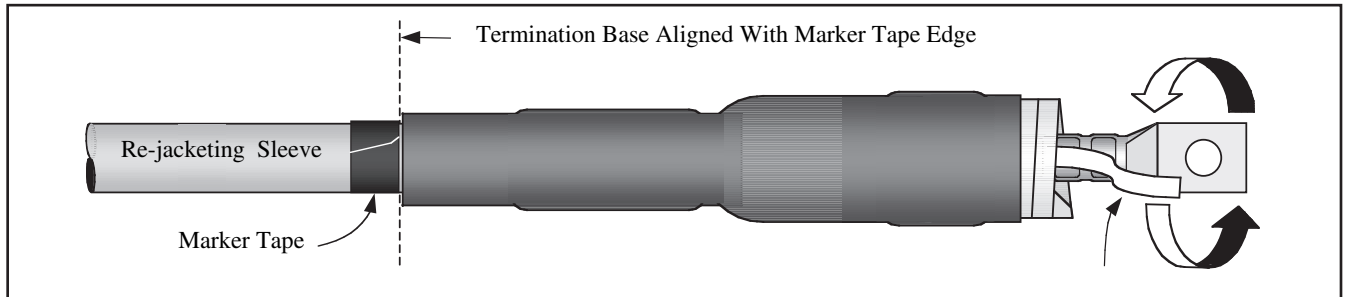

Figure 23
- (c.) Align the base of the termination (not the plastic core) with the installation marker tape as shown (Figure 23).
- (d.) Grasp the loose white core ribbon. Pull and unwind counter-clockwise around cable end (Figure 23).